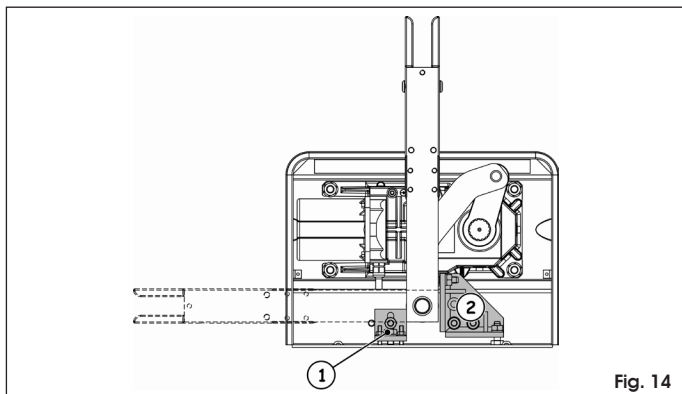

Fig. 14
For systems with 110° and 140° opening it is possible to fit the (optional) open (Fig. 14 rif. ①) and close (Fig. 14 rif. ②) mechanical stops inside the housing case. For installation details, please refer to the relative instructions.